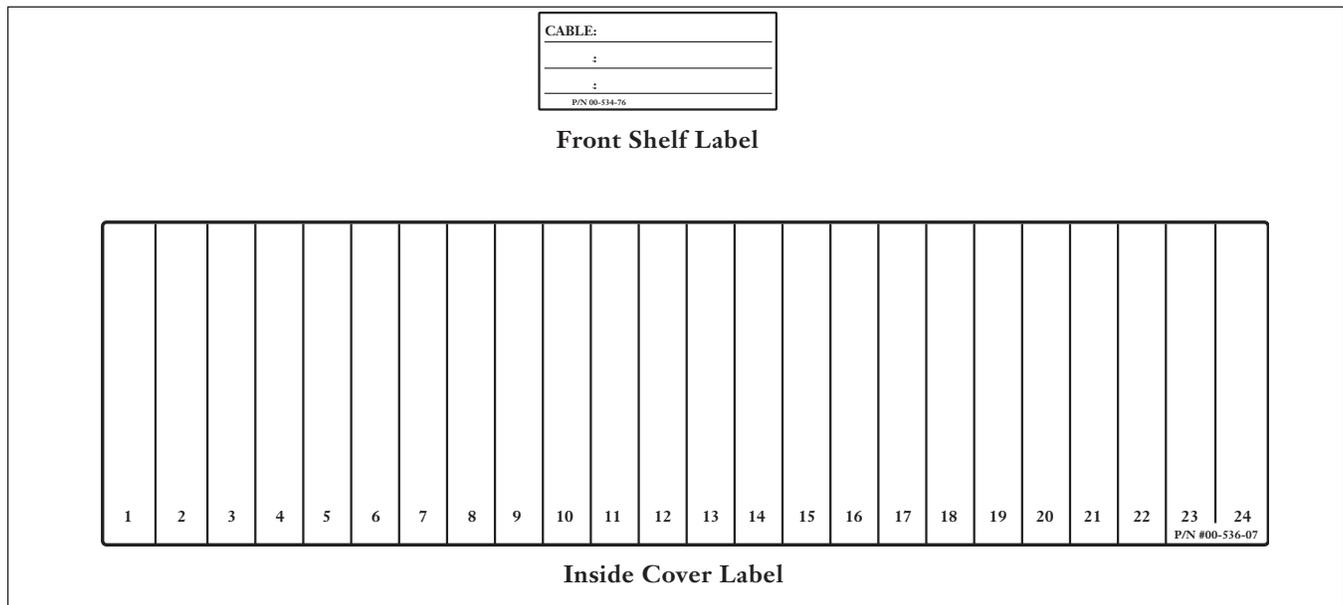

Figure 26
14.1 Keep track of splicing and connector information on the record label on the inside cover (Figure 26).